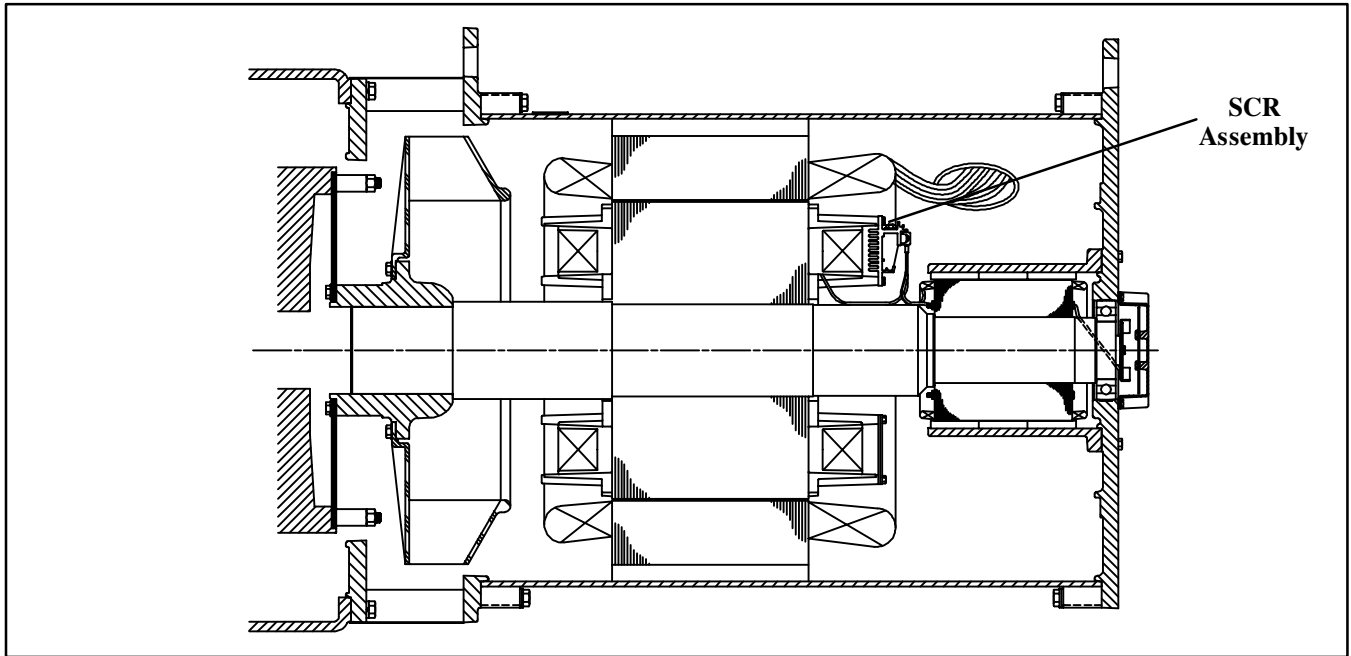

Figure 3. SCR Installation (Alternator Side View)
9. Install SCR assembly (A-258939) in position previously occupied by FR activator and heat sink; secure SCR with four screws (X-117-5) and internal tooth lock washers (X-22-9) supplied with kit. SCR heat sink should face engine end of generator as shown in Figure 3.